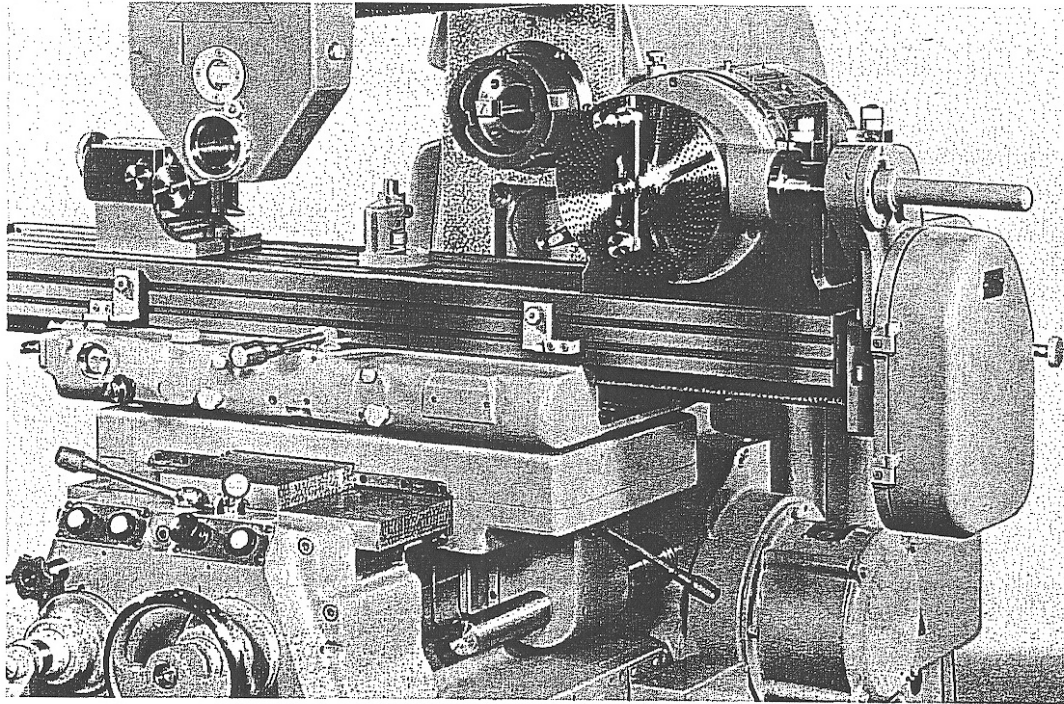

Figure 58
**2½" to 100" Standard Enclosed Driving Mechanism.** This driving mechanism is supplied with all CINCINNATI Universal General Purpose Milling Machines as standard equipment (Figure 58). It is available for plain and vertical style machines. The instructions and tables for this attachment are in this book and are also in a separate booklet, "Table of Leads—2½" to 100" Standard Enclosed Driving Mechanism."